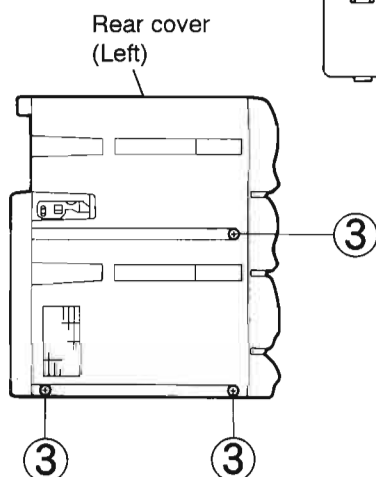
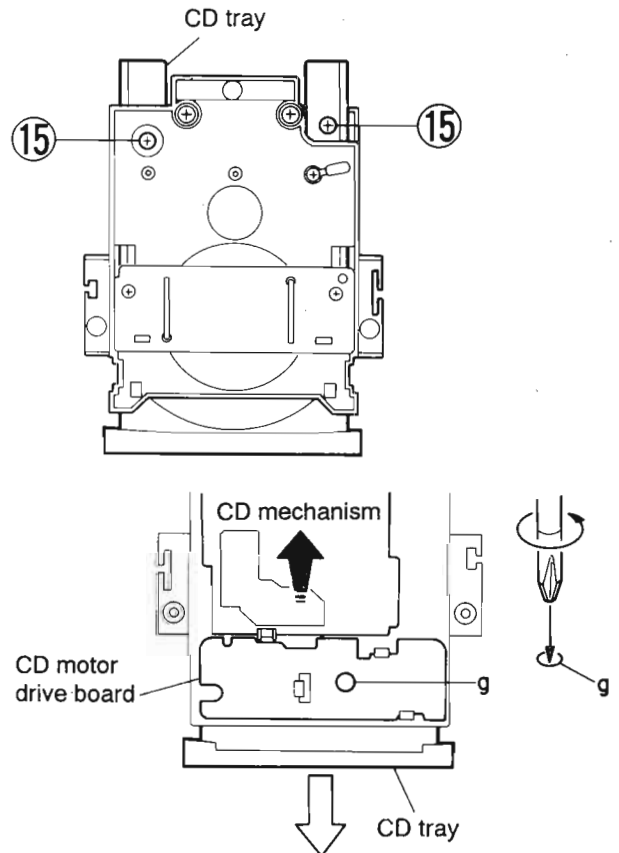

Fig. 5-3
Fig. 5-13
3. Remove the one screw (30) retaining the rod antenna and take it out.
4. Remove the three screws (3) retaining the rear cover from the left side of the body (Refer to Fig. 5-3).
**How to Remove the CD Tray** (Refer to Fig. 5-13)
5. Remove the two screws (15) playing a role of CD tray stopper.
6. Insert the driver into the hole (g) on the CD motor drive P.C. board and turn it in the arrow direction as shown in Fig. 5-3. Then, the CD mechanism will be raised in the arrow direction.